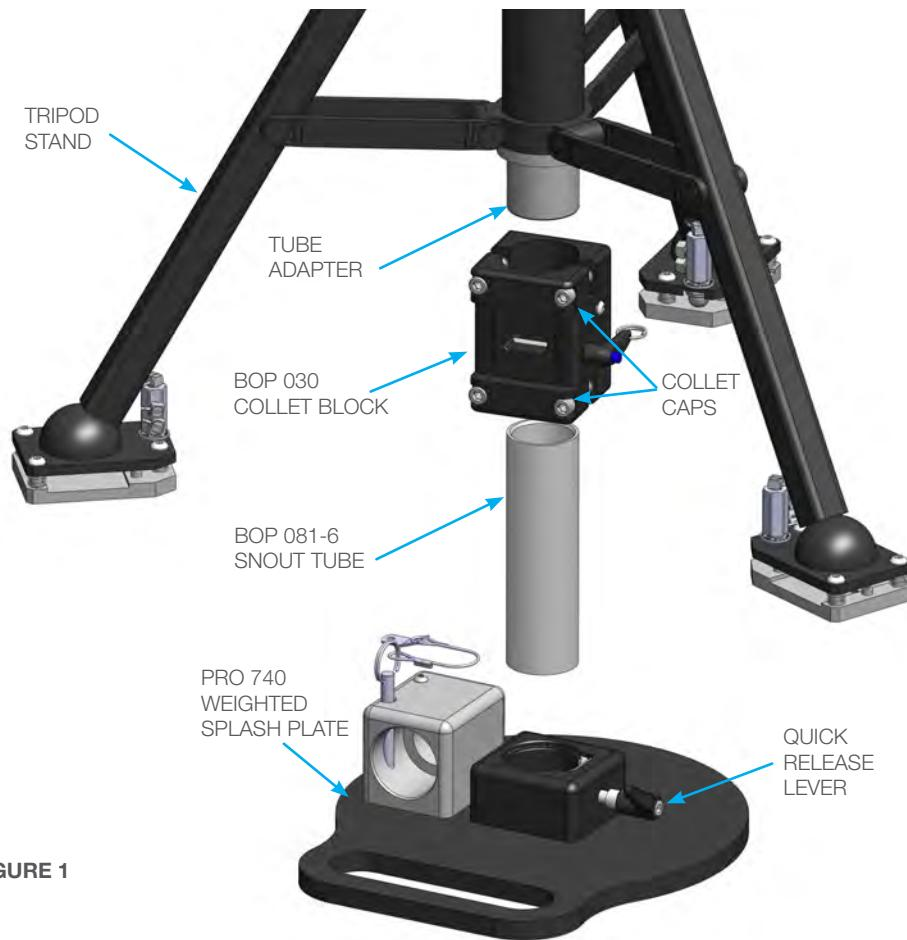

FIGURE 1
1. Attach the BOP 030 Collet Block to the Tripod Stand. Loosen two screws on one Collet Cap with a 1/4" Allen wrench. Slide the BOP 030 Collet Block onto the Tube Adapter located on the bottom end of the Tripod Stand. Tighten the two screws on the Collet Cap until secure. The BOP 030 Collet Block Assembly can stay attached to Tripod Stand when not in use. (**Figure 1**)
2. Attach the BOP 081-6 Snout Tube to BOP 030 Collet Block. Loosen two screws on the other Collet Cap with a 1/4" Allen wrench. Slide the Snout Tube into the Collet Block and tighten the two screws until secure. (**Figure 1**)
3. Attach the PRO 740 Weighted Splash Plate to the BOP 081-6 Snout Tube. Loosen two screws on the other Collet Cap with a 1/4" Allen wrench. Slide the Weighted Splash Plate onto Snout Tube and tighten the Quick Release Lever until secure. (**Figure 1**)